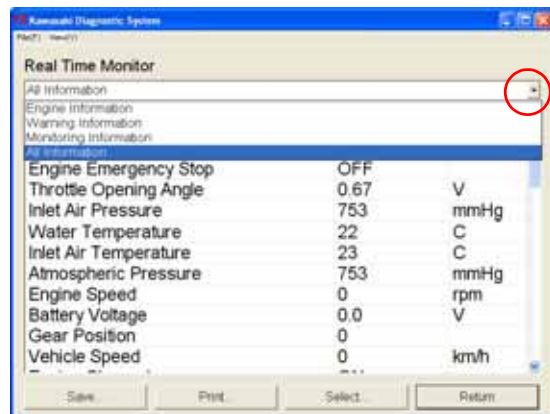

Fig. 6-6 Real Time Monitor
Fig. 6-6 appears after selecting the **Real Time Monitor** on the FI ECU Related Menu. Component values and warning information from the ECU can be viewed on screen.
- o Select a group from the pull down menu (Fig. 6-6).
- o Click **Select** (Fig. 6-6).